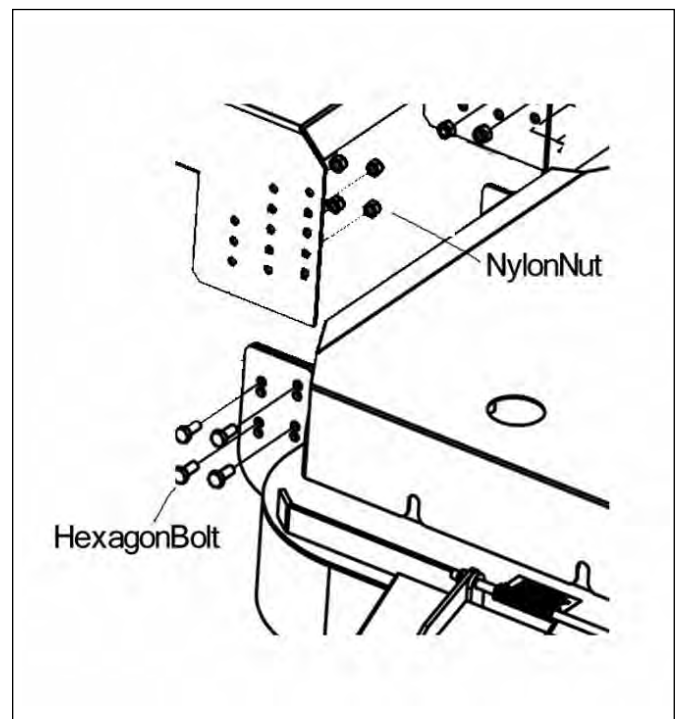

Figure 13
**Adjusting the Deck:** (refer to Figure 13)